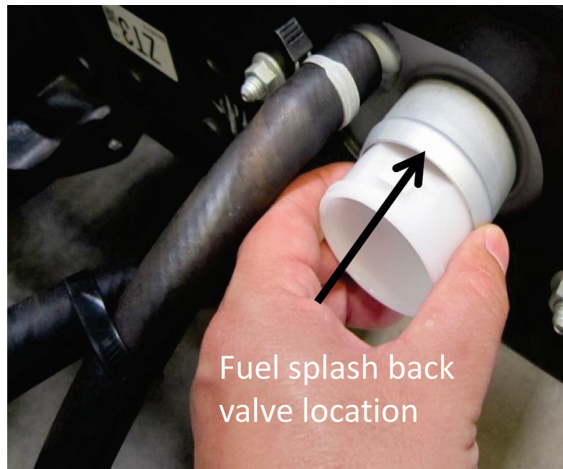
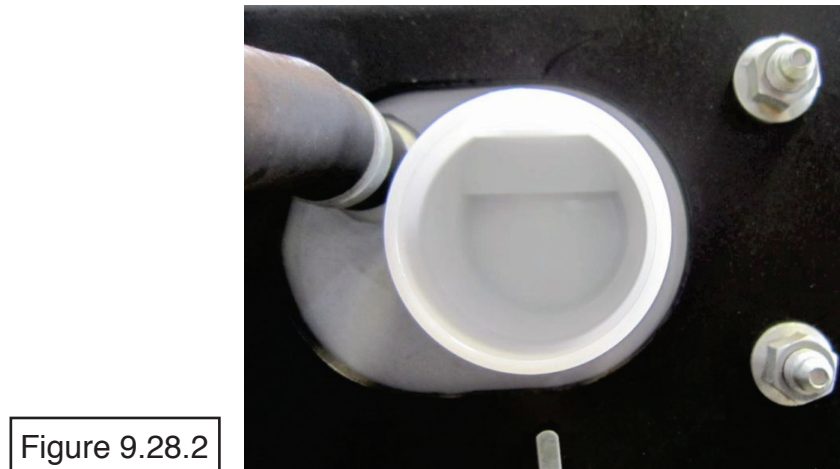

Figure 9.28.1
Figure 9.28.2
The fuel tank shutter valve (13) was a new component for 2011 model year. This component is meant to improve fuel splash-back performance of the fuel system. In the 2012 model year a running change was made and this valve (13) was relocated from the fuel tank inlet to the inlet (outboard side) of the fuel filler neck bulkhead assemble that is bolted to the left hand frame rail as shown in **Figure 9.28.1** . This plastic valve snaps into place in the inlet of the frame mounted fuel pipe. The valve should be installed so that the plastic clip is at the top of the valve, so that the flap door opens up, as shown in **Figure 9.28.2**.